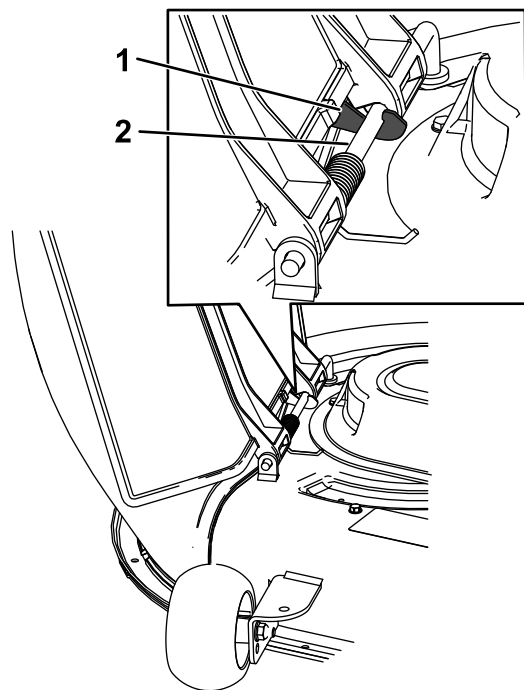

Figure 22
3. On the top of the chute, engage the hook-shaped latch around the pivot rod of the deflector assembly (Figure 22).